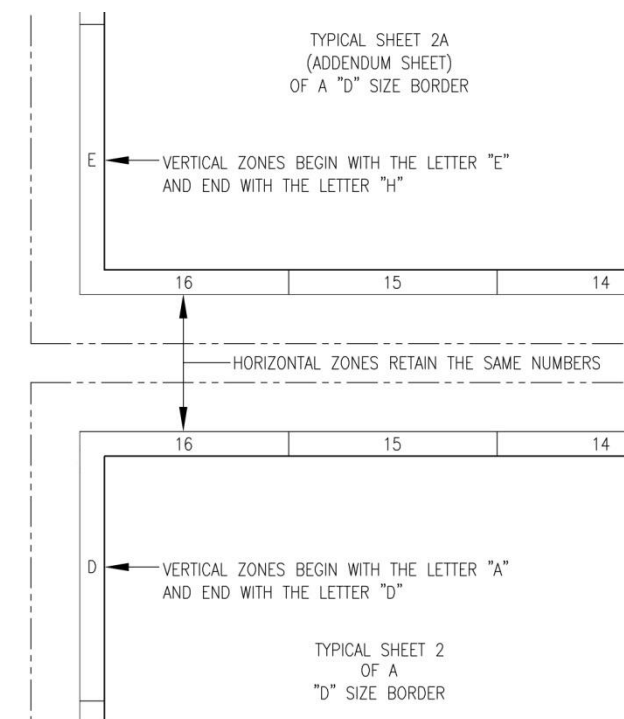

FIGURE 1: DRAWING ZONES FOR ADDENDUM SHEETS (NOT TO SCALE – FOR ILLUSTRATION PURPOSES ONLY)
3.4 Drawing zone requirements. All drawing sheets, except A and B size drawings, must include vertical (alphabetical) and horizontal (numerical) zones for reference purposes (Figure 1).